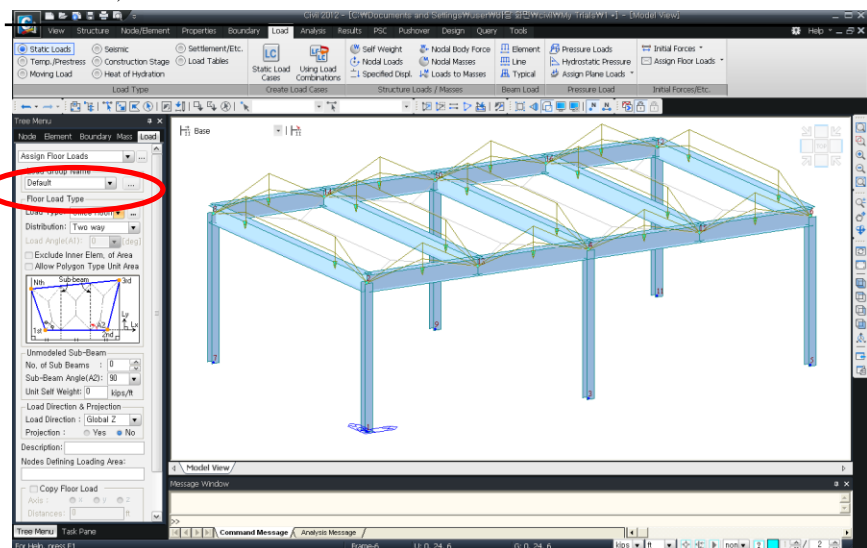

Figure 1.16 Entry of Floor Loads
1. Select Load > **Assign Floor Loads** from the functions selection field (Fig.1.16-①).